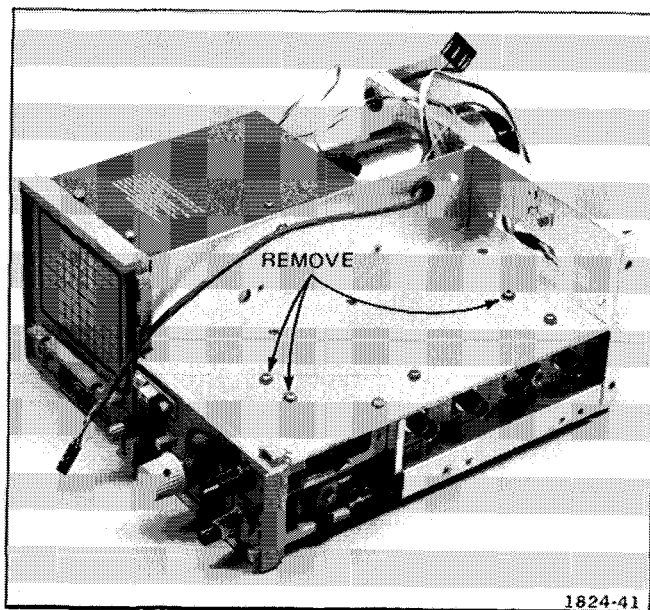

Fig. 4-13. Location of screws holding Attenuator circuit board to chassis.
- e. Remove 3 screws holding the attenuator board assembly to the chassis (from opposite side). See Fig. 4-13.